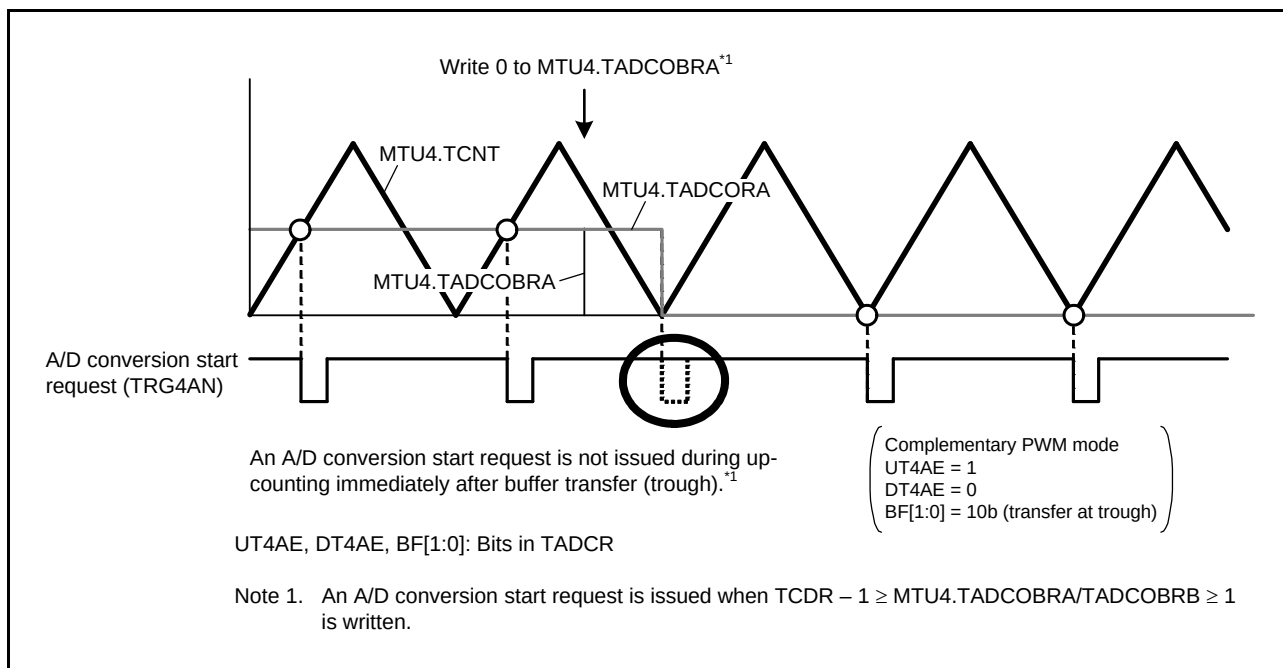

Figure 19.141 A/D Conversion Start Request When 0 is Written to MTU4.TADCOBRA
- When data is transferred from a buffer register at the trough of the MTU4.TCNT counter while the MTU4.TADCOBRA and MTU4.TADCOBRB registers are set to 0 and the UT4AE and UT4BE bits in the MTU4.TADCR register are set to 1, no A/D conversion start request is issued during up-counting immediately after transfer. Refer to Figure 19.141.